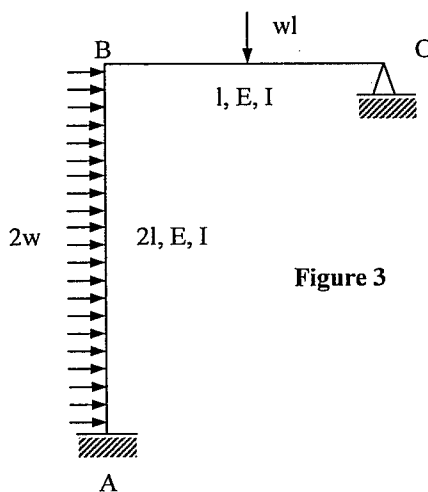

Figure 3
- (iii) Consider the structure shown in Figure 3. Find the nodal displacements at B and C using the displacement method. You can neglect the axial deformation. (12 Marks)